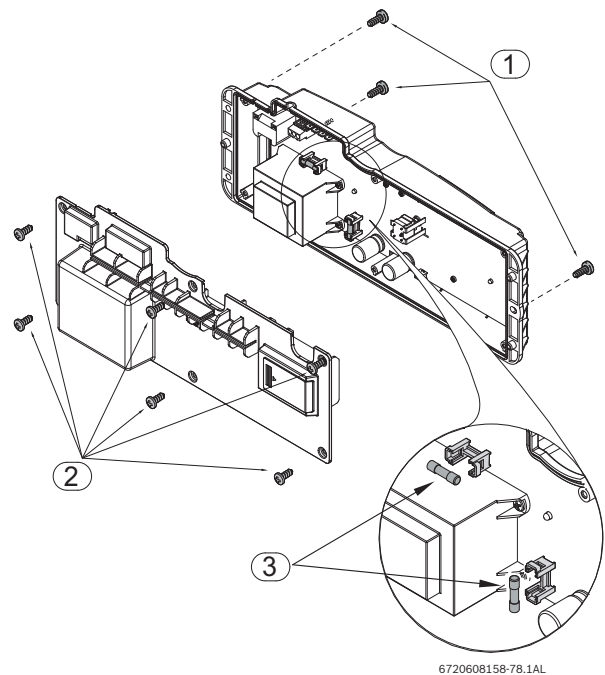

Fig. 45 Location of fuses
- Pull control unit free to access and remove the six screws from the back cover of the control unit, see Fig. 45, pos. 2.
- Check the fuses in the printed circuit board, see Fig. 45, pos. 3.